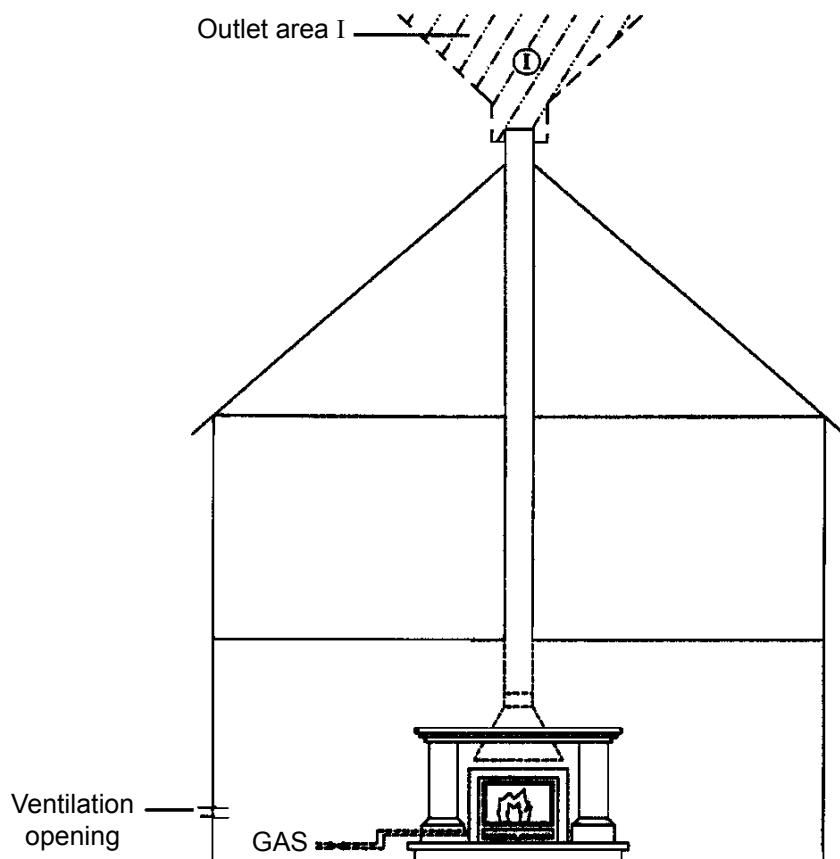

Figure 1: Naturally ventilated house
- 1 NATURALLY VENTILATED HOUSE (see Figure 1)